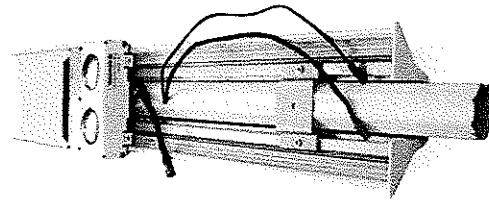

Figure 12: Assembly of the Schedule Assembly
9. Start sliding the front panel assembly back. Attach the button connector first, when you are approximately halfway down the channel (Figure 12). Make sure that the wires are out of the way so that they do not get pinched. The easiest way to do this is to make sure that the wires are all on one side and placed inside the channel (right beside the pole).